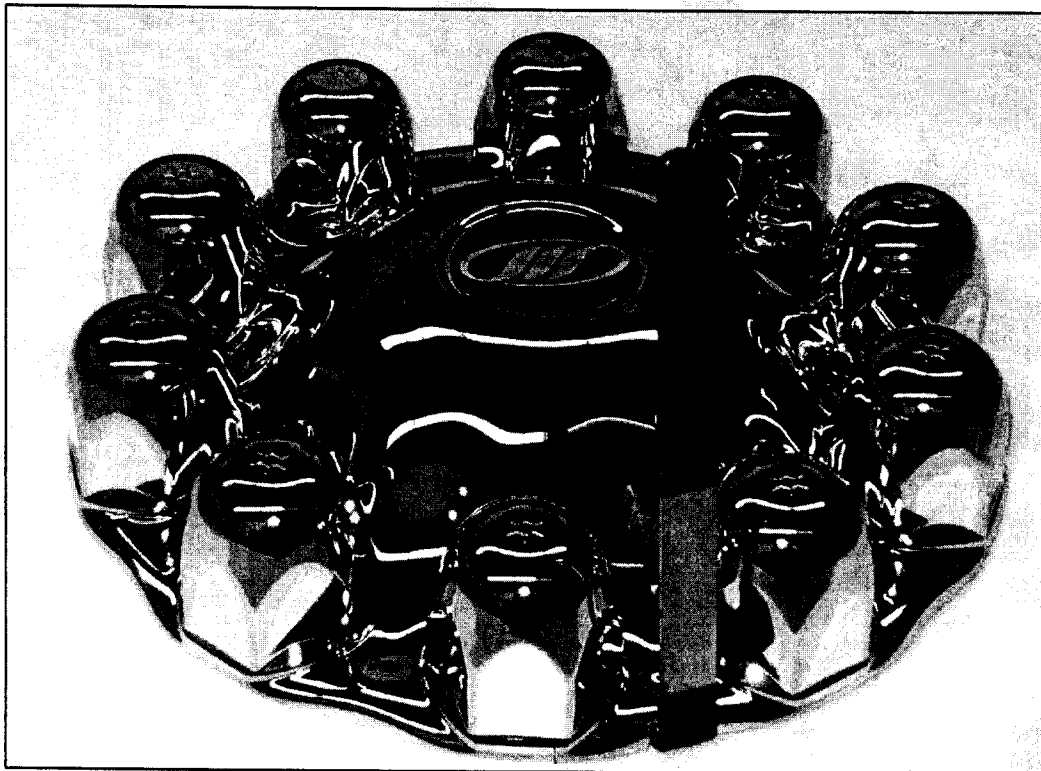

Figure 1. Front / tag axle one-piece hub cover with removal tool.
If coach is not equipped with hub covers (refer to Figure 1 or 2), proceed to Step 4.
2. Locate the one piece hub cover on the front axle wheel end. Visually locate the notch on the side of the hub cover. Insert the hub cover removal tool, reference p/n 15-01-1216, into the notch on the side of the hub cover (refer to Figure 1). Using the removal tool, in a rotating action carefully separate the hub cover away from the wheel face. Place aside to be re-installed at a later step in this procedure.
3. Locate the 11-piece hub cover on the front axle wheel end. Insert the removal tool on a lug nut cover (refer to Figure 1). Using the removal tool, in a back and forth action carefully separate the lug nut cover from the lug nut. Repeat to remaining nine (9) lug nut covers until the center hub cover is released. Place aside to be re-installed at a later step in this procedure.